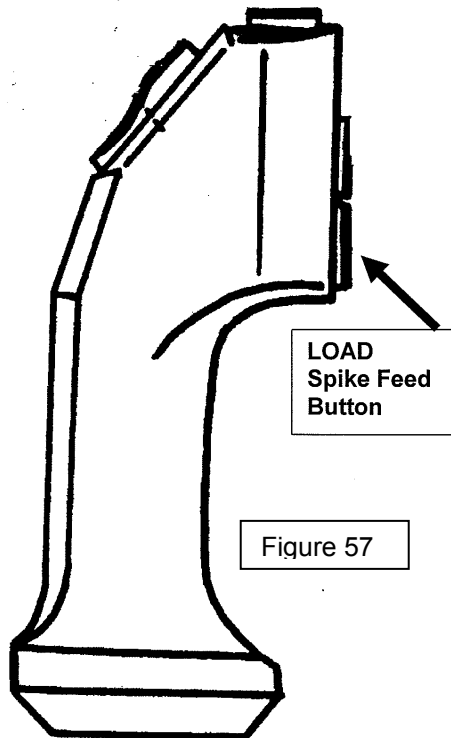

Figure 57
3. Turn the gun load flow control valve adjusting screw clockwise (CW) all the way in, then 6 ½ turns counterclockwise (CCW) back out.
8. Press and release the load pushbutton (Figure 57) on the hand controller for the spike feed cylinder being tested.